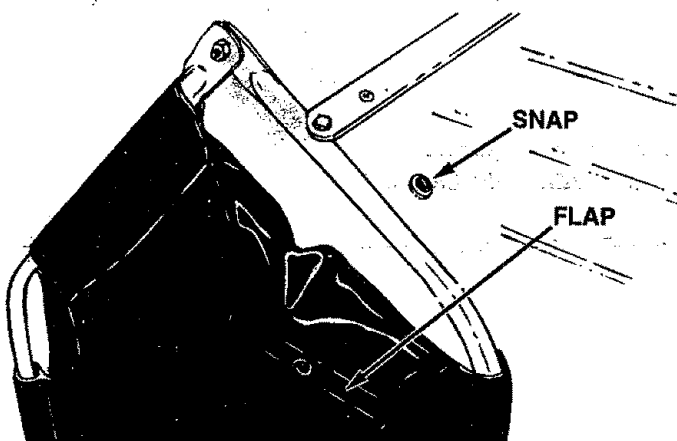

FIGURE 15
- Secure the bag corners over the lower hopper tube by snapping the flap to the bag bottom on both sides. See figure 15.